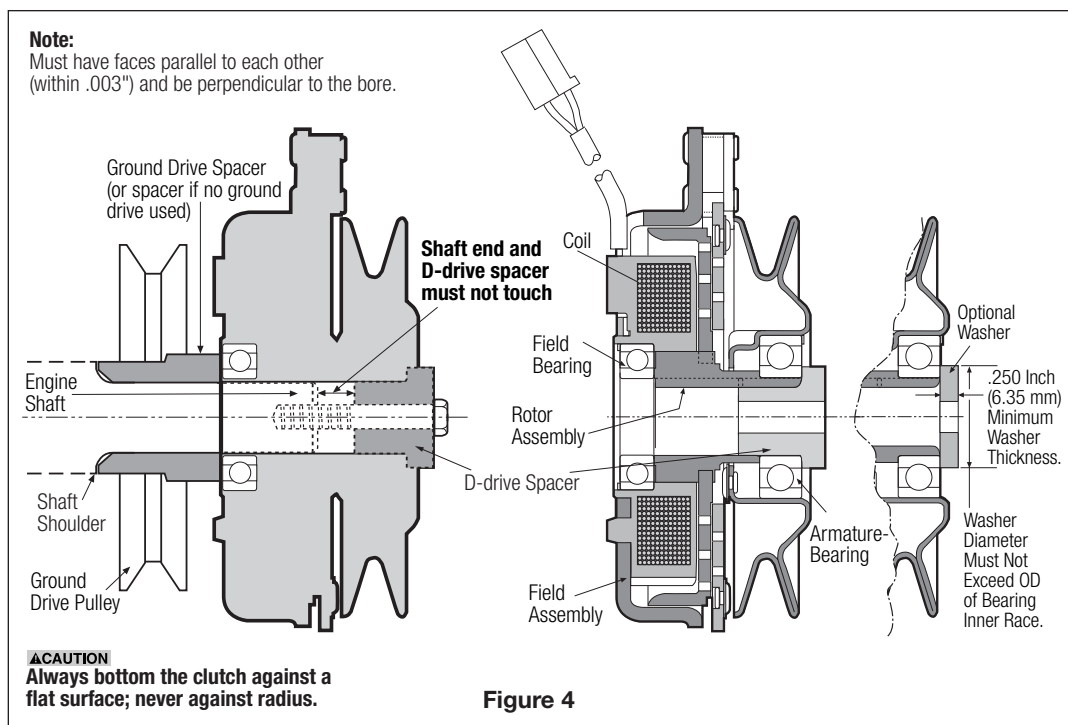

Figure 4
9. End of engine shaft and D-drive spacer, if equipped, should NOT touch. **See Figure 4.** If this occurs, clutch will not have the correct amount of clamp pressure when bolt is installed and torqued to correct value.